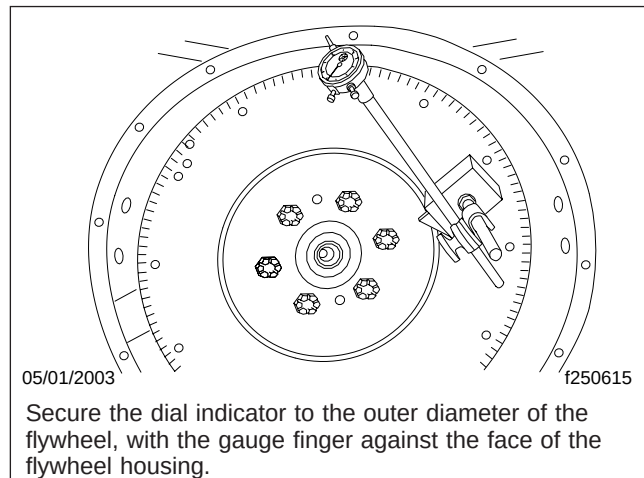

Fig. 5, Measuring the Flywheel Housing Face
5. Measure the runout of the face of the flywheel housing, as follows. See Fig. 5 for the correct setup.